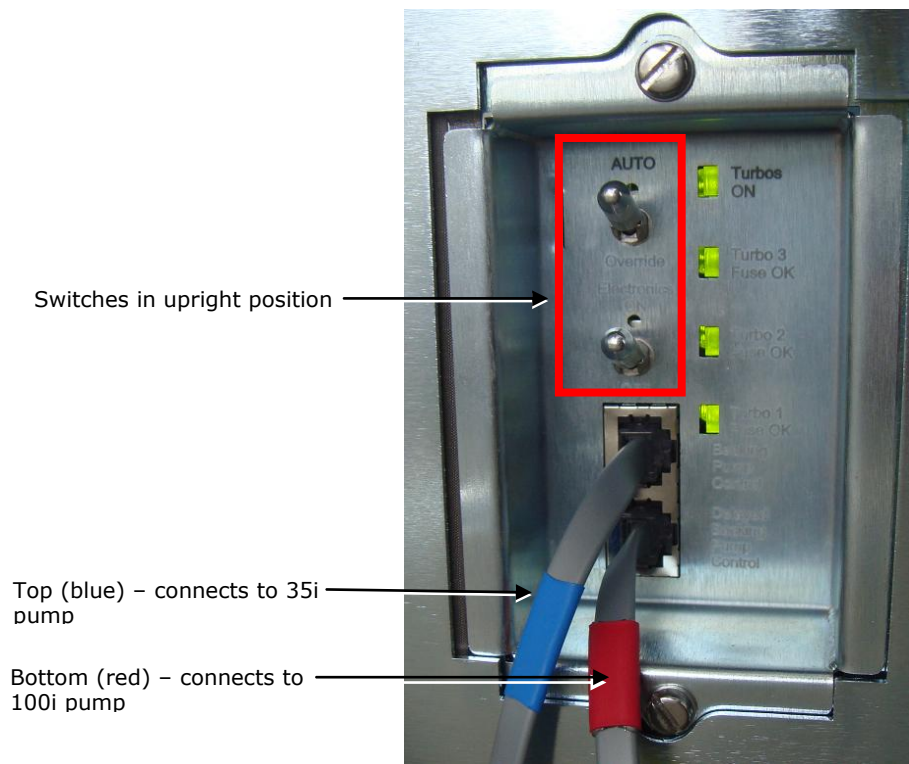

Figure 19 - Connecting the pump control cables (scroll pump configuration)
13. Ensure that the pumping override and maintenance toggle switches are in the upright position (Figure 19).